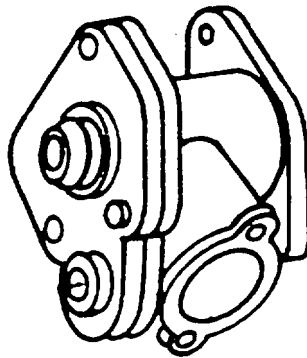

Figure 3-2.
Step 1. Check the core of the transmission oil cooler (Figure 3-2).